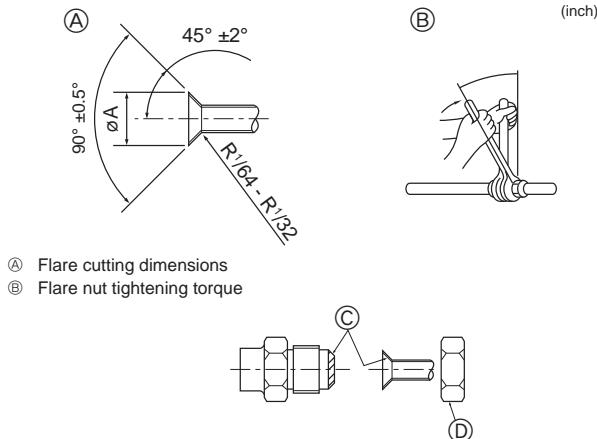

Fig. 4-2
Ⓐ (Fig. 4-2)	(mm [inch])
Ⓑ (Fig. 4-2)
4.2. Connecting pipes (Fig. 4-2)